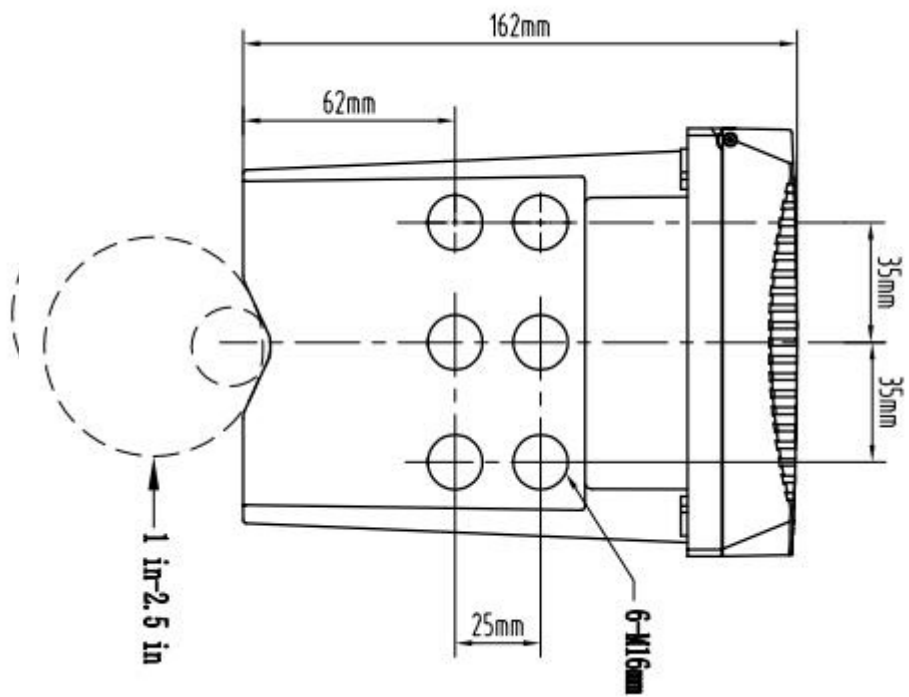

Figure 6 Bottom View, Top View
C. Panel installation Set the transmitter into the panel, and then fixed the transmitter with nuts and bolts on the panel, as shown in figure 5. Figure 6 shows the bottom view and the top view. In the installation way of clamp, the diameter of clamp is 1 inch to 2.5 inches.